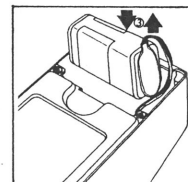

Fig. 2
- ① Connect the input jack to your instrument. The circuit is automatically turned on when a plug is inserted.
- ② SUSTAIN — Varies the compression range and the length of the sustain. The smaller the compression range CCW (counter-clockwise) the less the sustain. Maximum sustain and maximum compression range is fully CW (clockwise) on the control.
- ③ LEVEL — Controls the output level of the compressed signal.
- ④ Soft touch FET electronic switch changes EFFECT/NORMAL.
- ⑤ LED indicator comes on when effect is on. If it is dim or does not light, replace the battery.
- ⑥ EXT D.C. — When using external D.C. supply, internal batteries are switched off.
- ① Push the tab marked "OPEN" and lift up.
- ② Replace the battery as shown in figure 2.
- ③ Put the battery cover into the groove and push to the end.